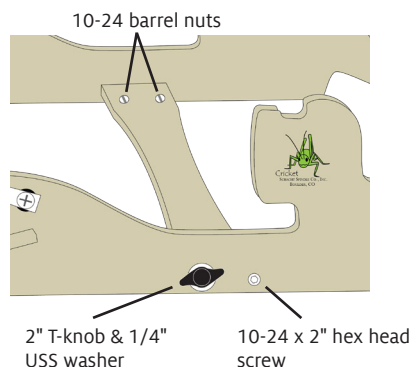

FIGURE 2: CROSS BRACE HARDWARE ON LOOM
- Place one 10-24 barrel nut into each hole of the cross brace, with the slot of the barrel nut perpendicular to the loom side (Figure 2). If you wish, hold the barrel nuts in place with masking tape.
- Locate the screws and barrel nuts attaching the cross brace to the loom sides (Figure 2) or the Quartet cross brace to the loom and castle sides.
- Cricket Loom only: Remove the screw from the **rear hole**. Insert one 10-24 x 2" hex head screw through this hole and into the barrel nut (Figure 2). Fully tighten the screw with the included 5/32" hex wrench. Repeat for the other loom side.